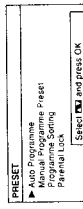

Fig. 6.
- 1 Select »Preset« with or and press OK. The PRESET menu appears. (See Fig. 6.)